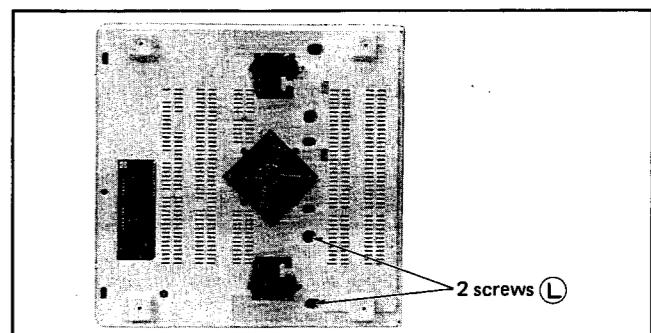

Fig. 12
- 1) Remove the two retaining 2 screws **L** from the tube shown in fig. 12.